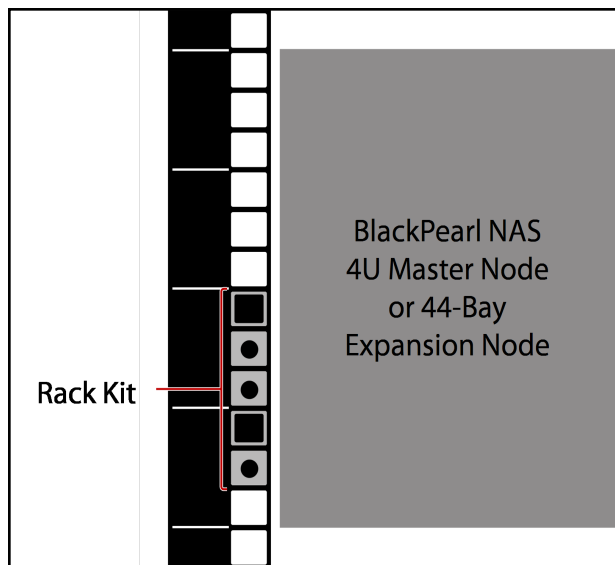
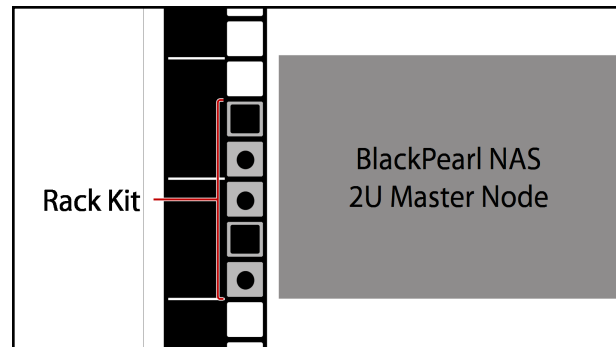

Figure 22 Relationship between rack kit position and the position of the 4U chassis.
Figure 23 Relationship between rack kit position and the position of the 2U chassis.
1. Determine the vertical position of the rack mount kit in the rack. Figure 22 and Figure 23 show the relationship of the rack kit position in the rack and the resulting position of the chassis.